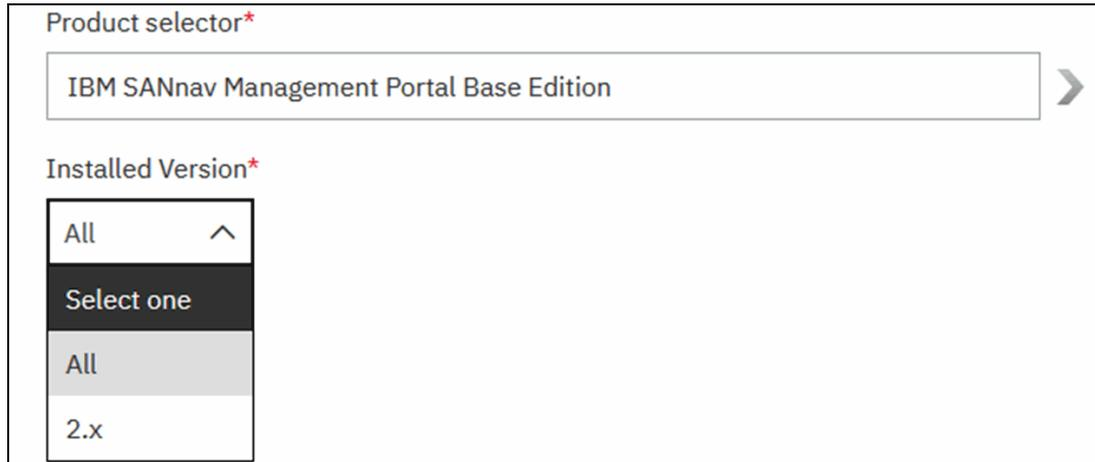

Figure 2-5 Version selection on Fix Central
3. Select the installed version (for an update) or **All** for a new installation, as shown in Figure 2-5.